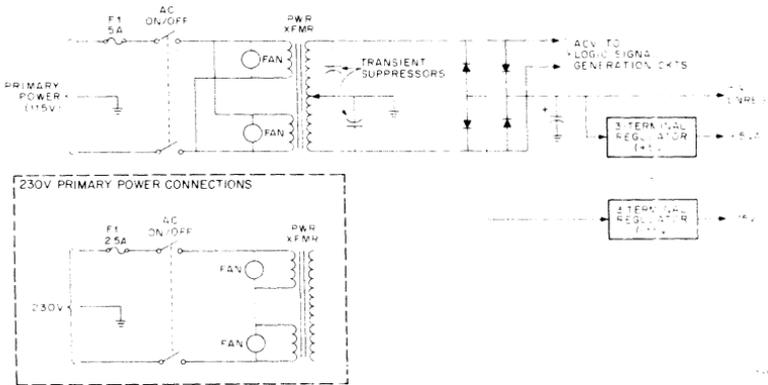

Figure 4-37 Unregulated Voltage and Local DC Power Circuits
**4.6.3.2 Unregulated Voltage and Local Power Circuits** – Unregulated voltage and local power circuits provide operating dc power for power supply logic and control circuits, and dc power for the +5 V and +12 V regulator circuits. These circuits are shown in Figure 4-37. AC power is supplied to the H780 via an ac input plug and cable. A toggle switch mounted on the rear of the H780 applies ac power to the power supply. Normally, this switch remains in the ON position, allowing ac power to be controlled by power distribution and control circuits external to the H780. Primary circuit overload protection is provided by a fuse mounted on the rear of the H780.